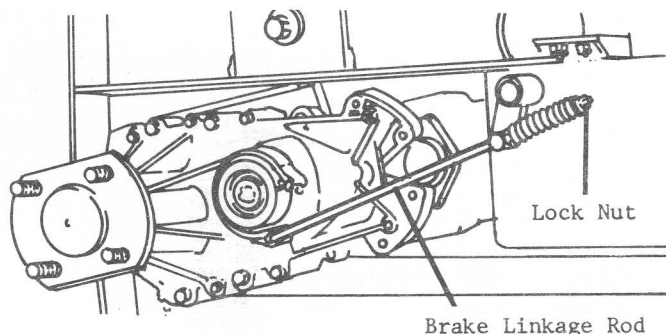

Figure 12
3. Shorten brake linkage rod by turning locknut clockwise (Figure 12) until wheel cannot be turned by hand.